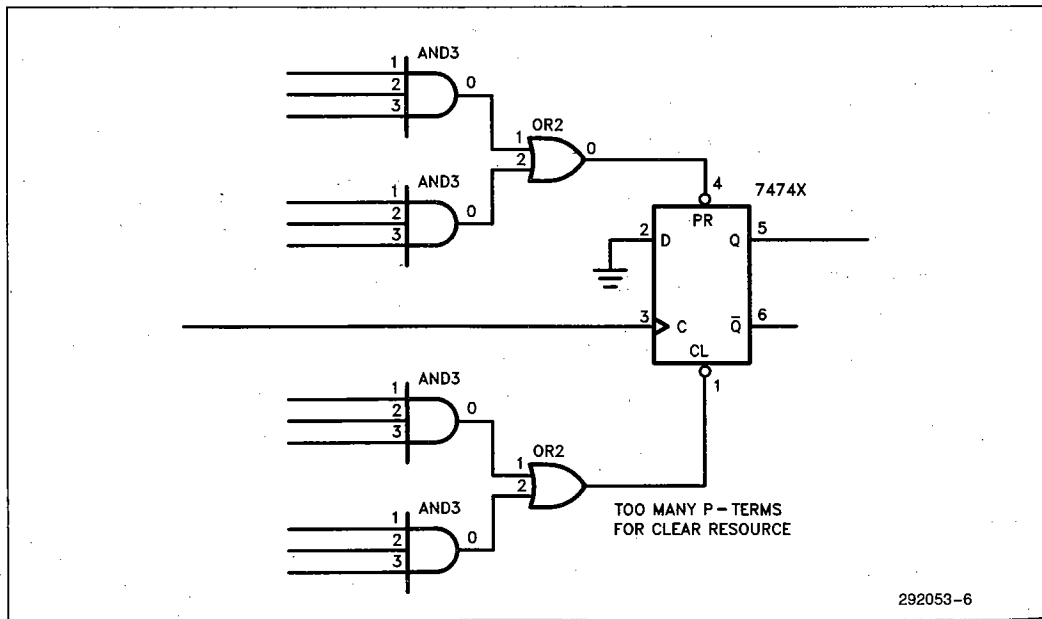

Figure 4a. Summit Six—Too Many P-Terms on Control - Clear
**WORKAROUND:** Once the offending signal has been located, it must be routed through another macrocell using an NOCF primitive (see Figure 4a-b). If the control signal is a clock, then a clock buffer (CLKB) must also be added.